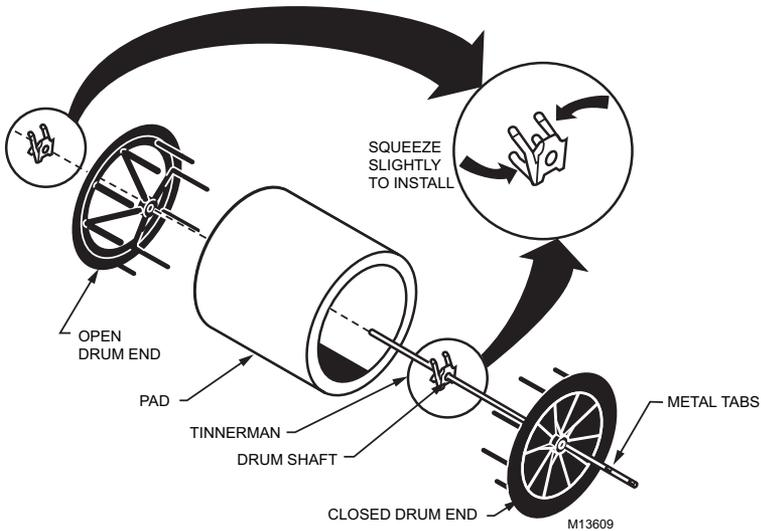

Fig. 3. Drum Assembly
7. Refer to the drawing to disassemble the drum. See Fig. 3.